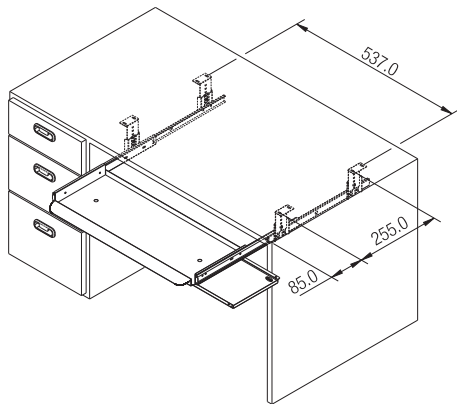

Fig. 1.
2. Screw the mounting brackets at 85 mm distance from the front edge of the table and to other 255 mm (Refer Fig. 1).